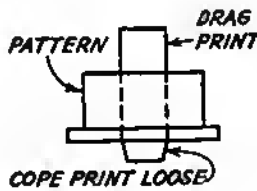

FIG. 179.
1. Lay the pattern (Fig. 179) on the board, drag side up, with the cope print removed.